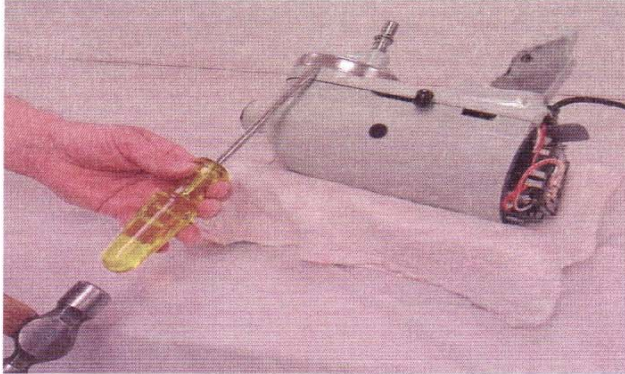

Fig. 5 The Drip Cup fits tightly and must be started off by tapping it.
E. To remove the planetary, first remove the drip ring. Use a screwdriver on the upper edge of the drip ring and gently tap the screwdriver to remove the drip ring (Fig. 5).